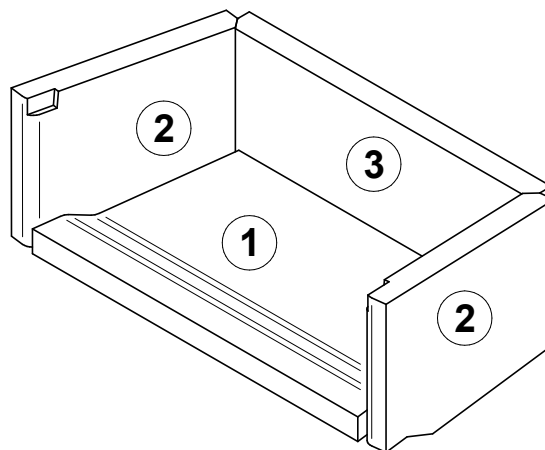

Figure 12 : Stones scheme
2. Unscrew the two supports **(B)** of the refractory bricks from the sides. The stones can then be removed in the order shown in Figure 12.